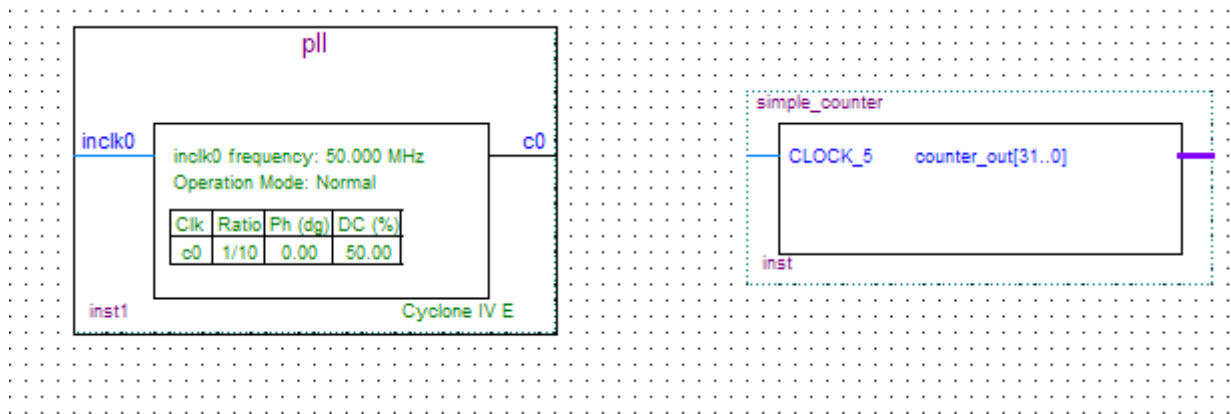

Figure 6-26 Place the PLL Symbol
- Click **OK** and place the pll symbol onto the BDF to the left of the simple_counter symbol. You can drag and drop the symbols, if you need to rearrange them. See Figure 6-26.